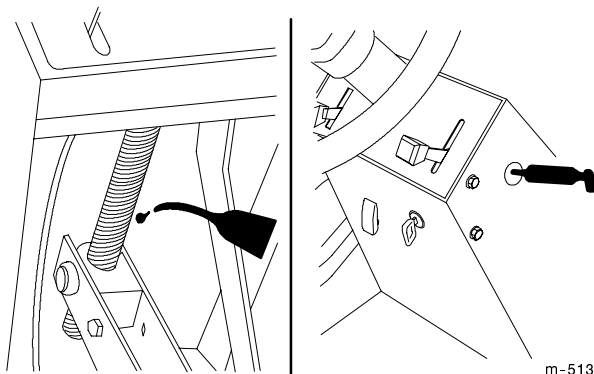

Figure 25
4. Lubricate the traction pedal bushings with a few drops of SAE 10W-30 oil or dry spray lube and the steering shaft (Fig. 25).